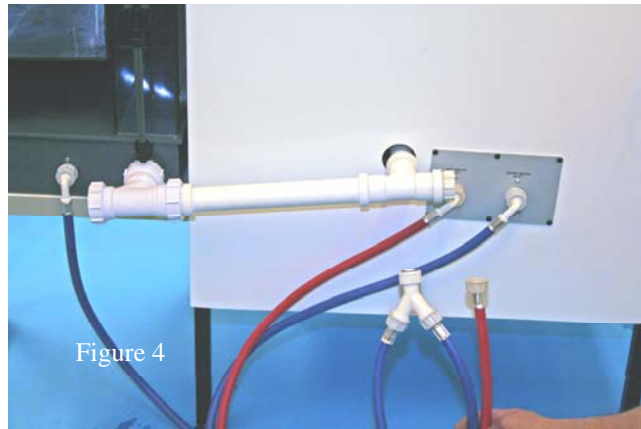

Figure 4
6. Fit the Drain Assembly from the Rota-Station to the Rota-Spray (see figure 4)